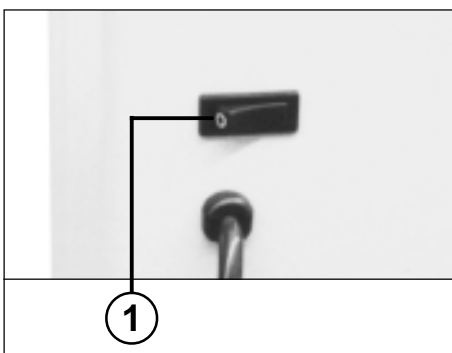

fig. 1
- 1 = Rocker switch „ready“ (fig. 1)**
To start, switch on the unit by operating the rocker switch (1) (fig. 1).
The motor shuts down automatically, should it become overloaded. Turn the machine off with the rocker switch (1) (fig. 1).